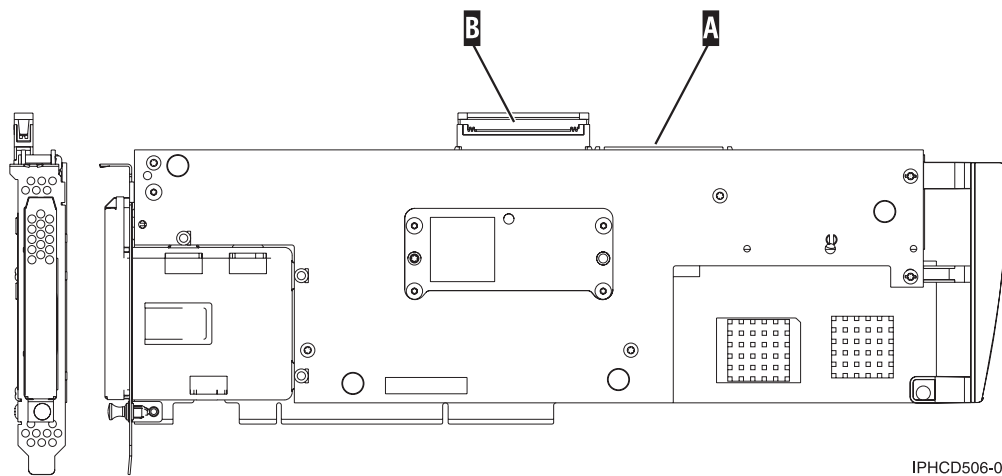

Figure 71. 5708, auxiliary-write cache IOA
2. Attach the cable to SCSI port A on the auxiliary-write cache adapter. See Figure 71 on page 219.